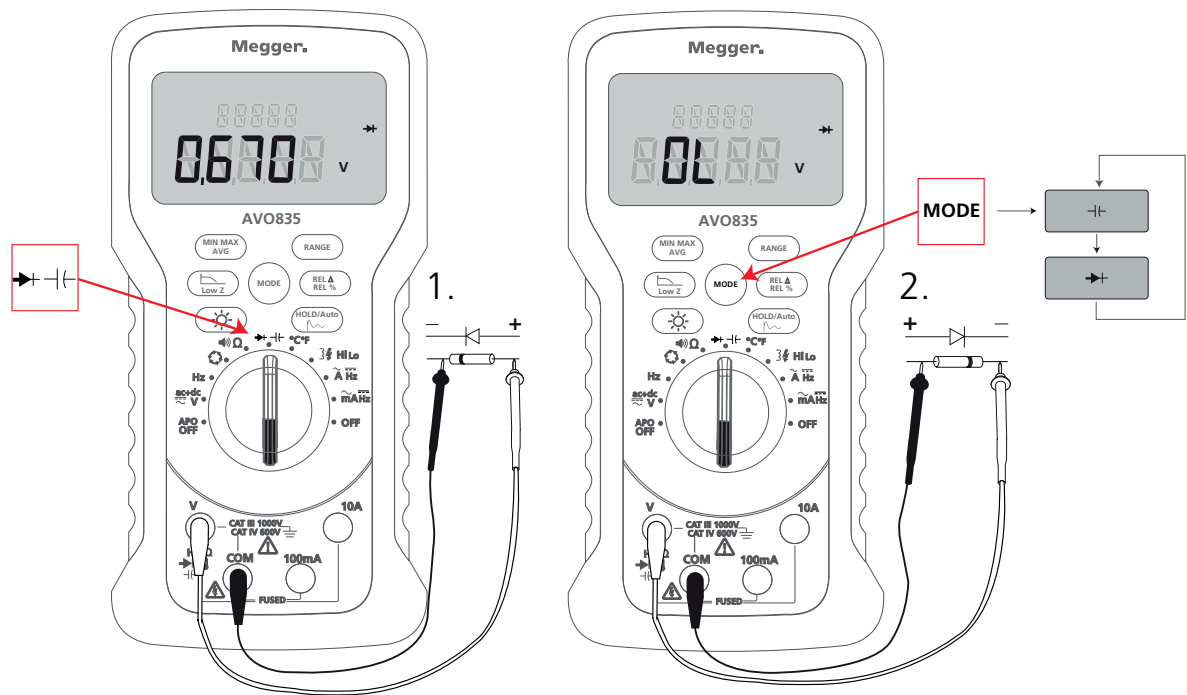

Fig 7: Diode Test Set-up
- 2. Set-up the instrument as shown in Fig 7 for forward or reverse bias.